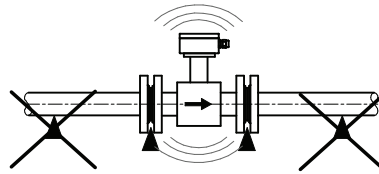

Figure 2.9
3. Pipe supports of adjacent pipe should be placed as close to the FM100 as possible to reduce the risk of vibration (see Figure 2.9).